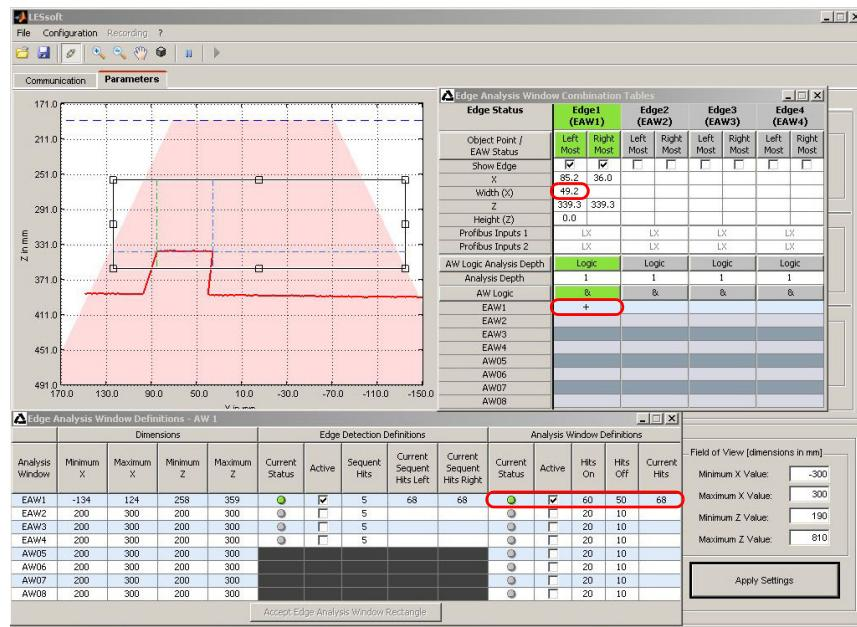

Figure 9.9: Application example 3.1: width monitoring of cubic objects with object detection
The threshold for object detection in EAW1 is 60 hits. In figure 9.9 there is a wide object with Current Hits = 68 in the measurement range of the LES. The object is detected, the state of object detection is green (ok). In the Edge Analysis Window Combination Tables window, the additional object detection is activated by selecting + under EAW1. All results are green (ok). The ascertained width of the carton is 49.2mm (column Edge1 -> line Width (X)).